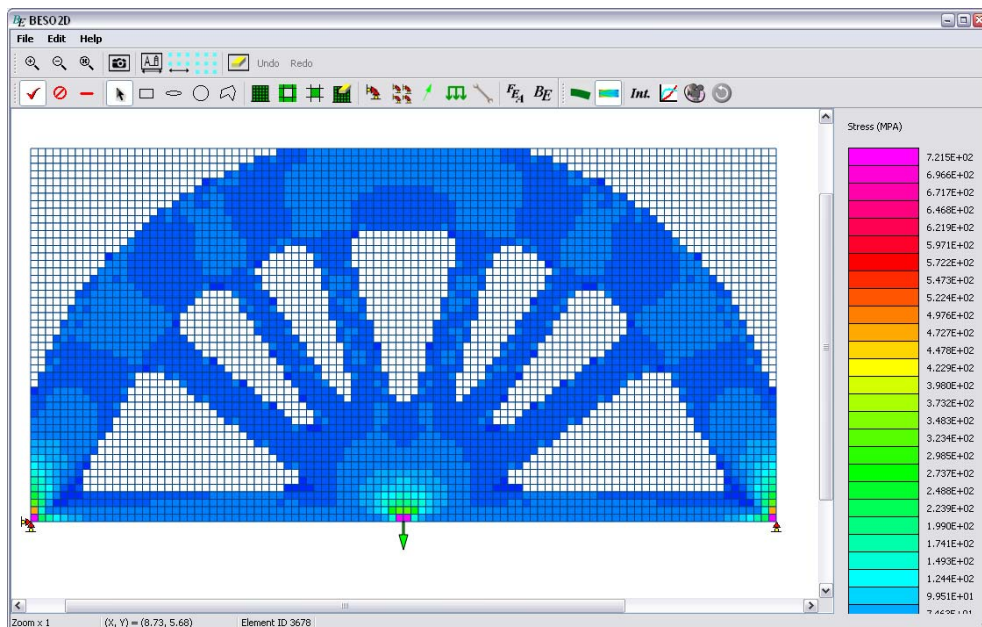

Figure 8 The final optimal design of the Michell type structure with 60% volume fraction.
- After a short while, a “BESO finished” message box will show up indicating the end of the optimization run with the message “Optimization converged to a solution”. Click on “OK” to dismiss the message and the final optimized design is shown in the display area as in Figure 8.